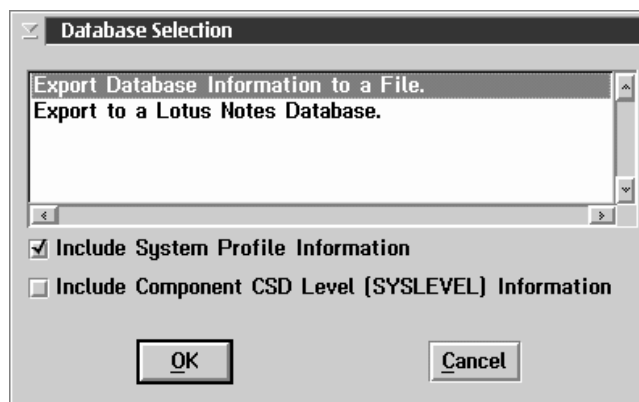

Figure 42. The Database Selection window
2. Select **Save** to save this information and open the Database Selection window (see Figure 42).